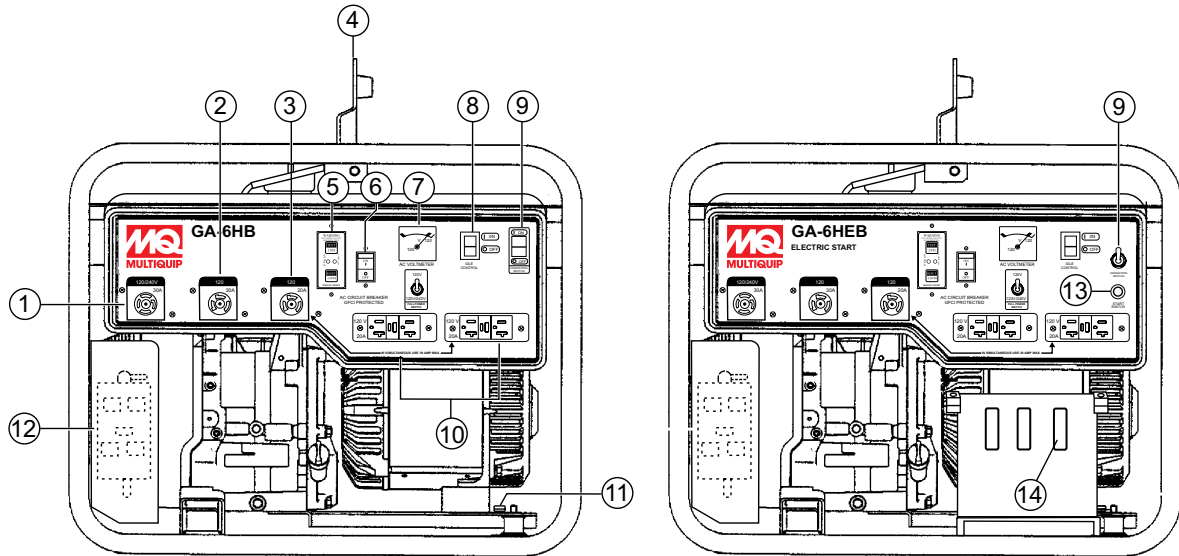
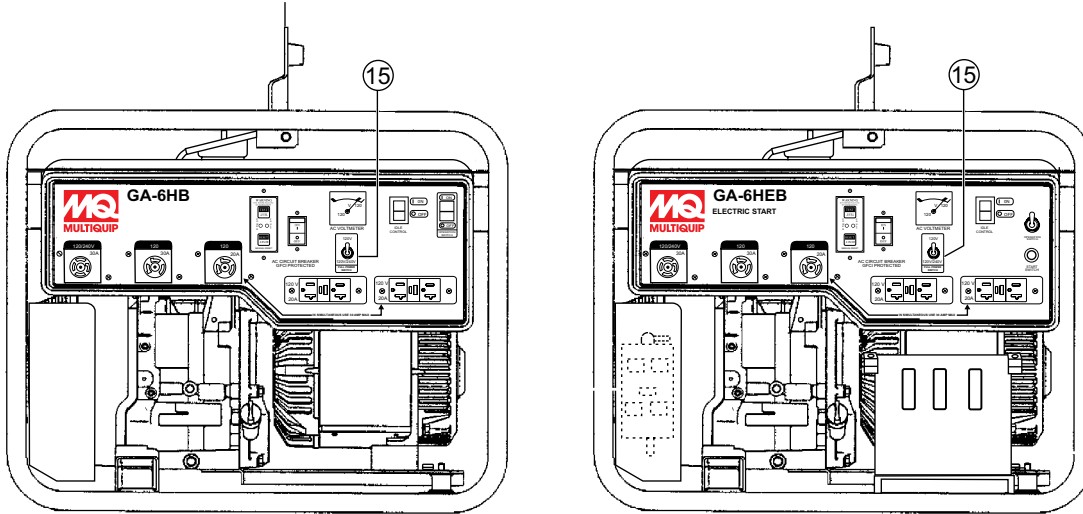
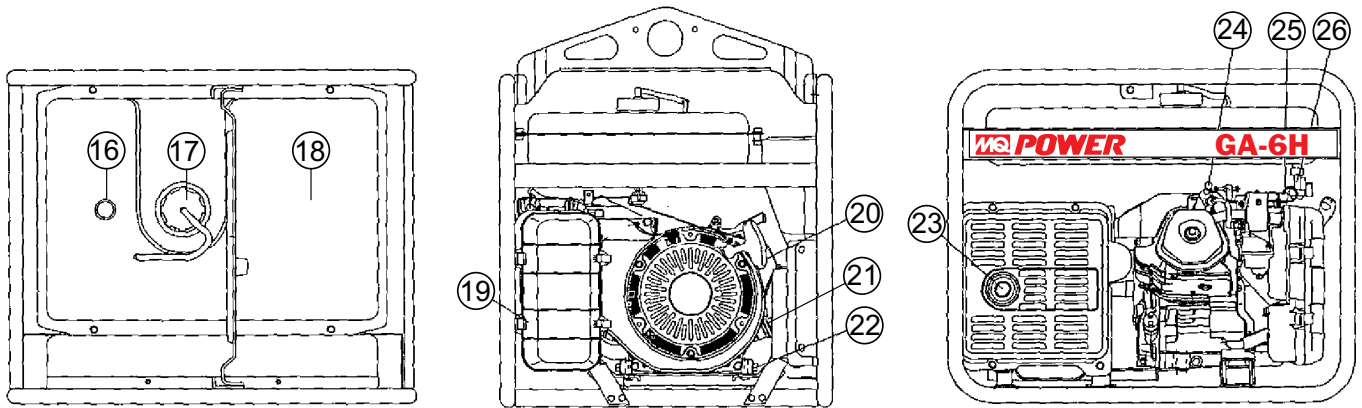

Figure 3. Generator Components
Figure 4. Full Power Switch
Figure 7. Generator Components (Continued)
The protective carrying frame is made of steel tubing and fully wraps around the generator to protect against damage. Reference Figure 3, Figure 4 and Figure 7 for the basic controls and indicators for the GA6HB/GA6HEB generators.
In simultaneous mode use of receptacles, Figure 3, items 3 and 10 (right most GFCI) is 30 amps maximum. **DO NOT** exceed 30 amps when using this configuration.